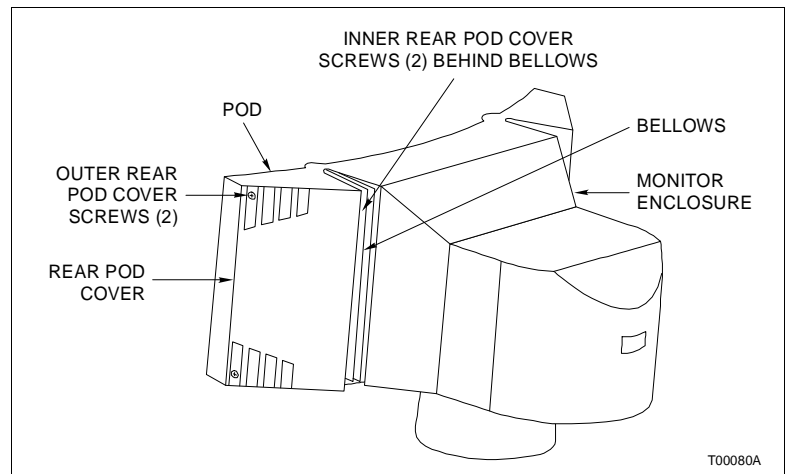

Figure PR71-1. Rear Pod Cover
2. Use the long Phillips head screwdriver to remove the two outer rear pod cover screws (Fig. PR71-1).